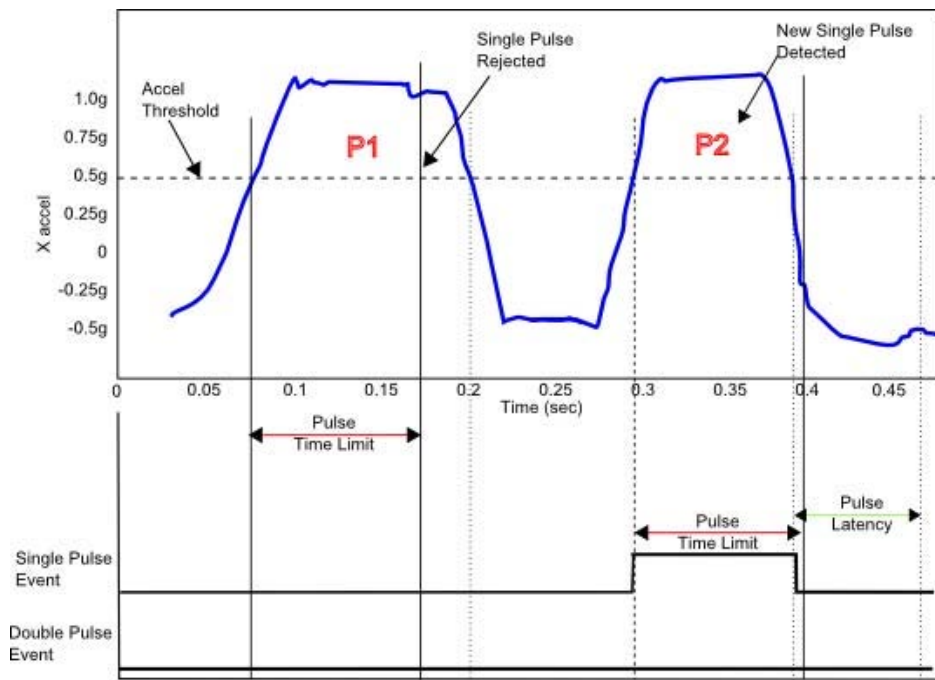

Figure 9. Single Pulse Rejected Due to First Pulse Width Exceeding Pulse\_TMLT Period (DPA = 1)
**Note:** In Figure 9, Pulse P1 is rejected because its pulse width is longer than the time period specified by the PULSE\_TMLT register.